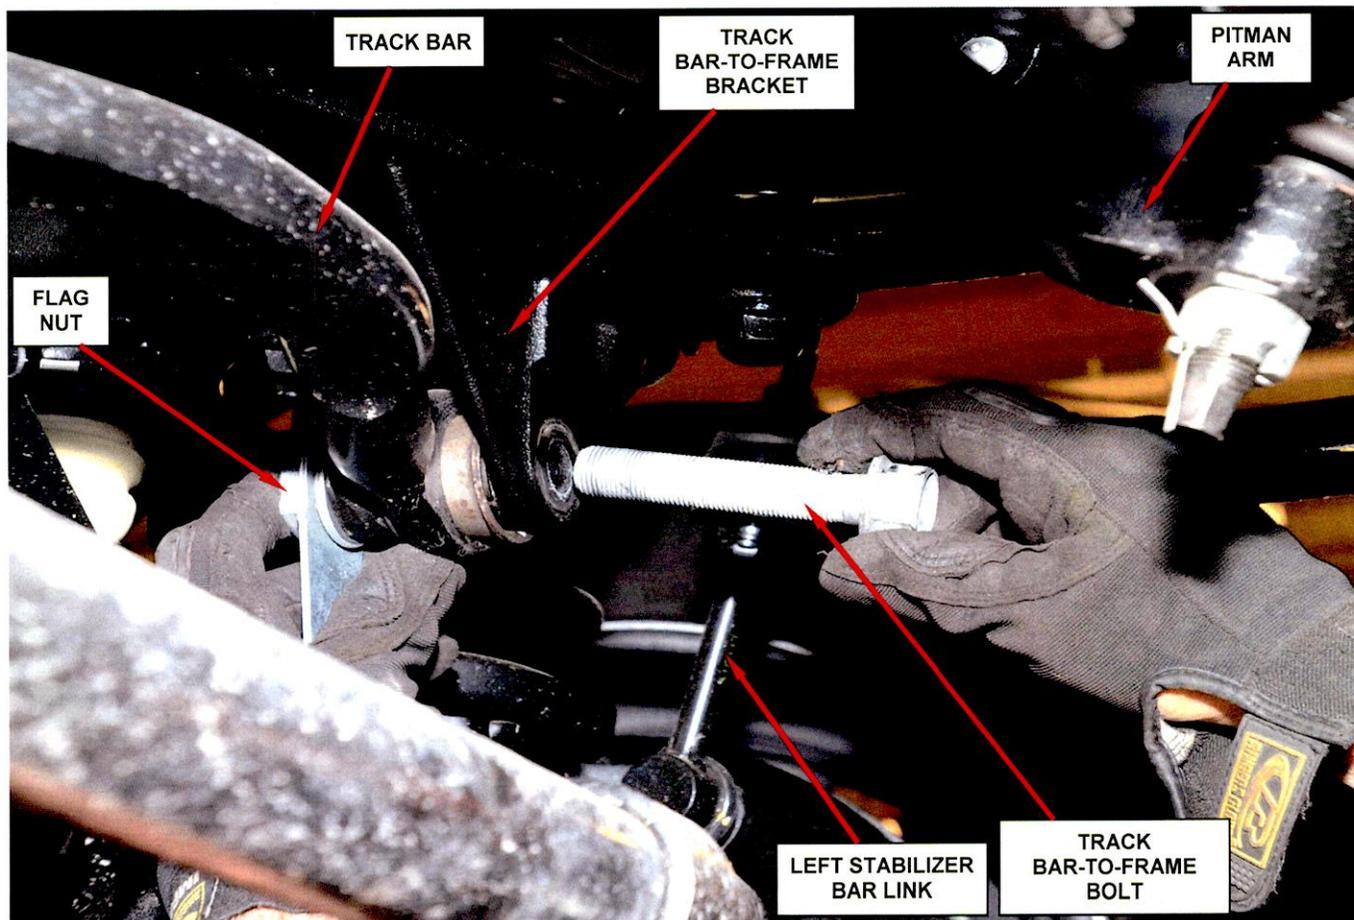

Figure 2 – Remove/Install Track Bar-to-Frame Bolt
3. Install the new track bar-to-frame bolt and nut. The bolt must be installed with the threaded end pointing toward the rear of the vehicle (Figure 2). Tighten the track bar-to-frame bolt to 273 ft. lbs. (370 N·m).